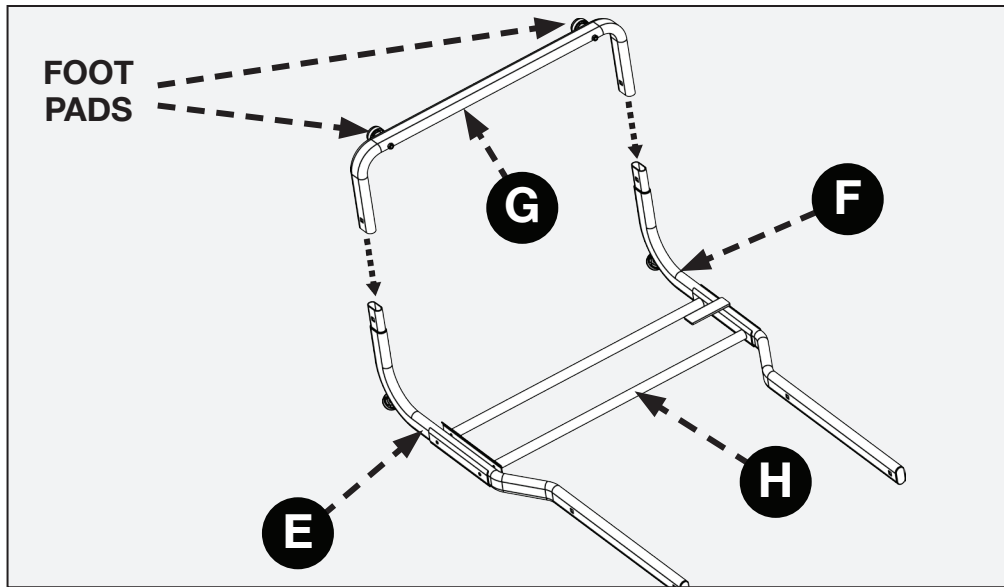

FIGURE 3
Place the cross connect assembly (H) between the support rod assemblies and connect the support rod connection tube (G) to the ends of the support rod assembly tubes as shown in Figure 3.
NOTE: Ensure foot pads are oriented as shown in Figure 3.